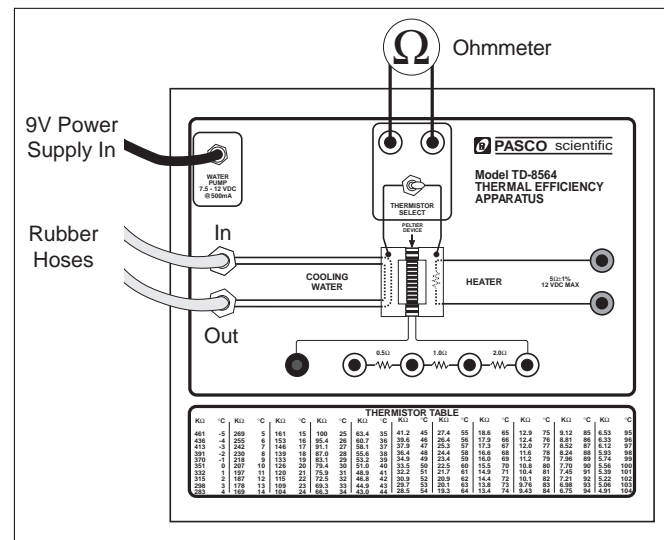

Figure 4: Thermal Efficiency Apparatus
The temperatures of the hot and cold reservoirs are determined by measuring the resistance of the thermistor imbedded in the hot or cold block. To do this, connect an ohmmeter to the terminals located as shown in Figure 4. The switch toggles between the hot side and the cold side. The thermistor reading can be converted to a temperature
- ① Prepare the ice-water bath and immerse both rubber tubes from the Thermal Efficiency Apparatus into the bath (Figure 4).
- ② Plug the 9V transformer into the wall socket and into the pump on the Thermal Efficiency Apparatus. You should now hear the pump running and water should be coming out of the rubber hose marked “out”.
- ③ Plug the ohmmeter into the thermistor terminals.
- ④ Connect a DC power supply and a voltmeter and ammeter to the heater block terminals. Adjust the voltage to about 11 V.